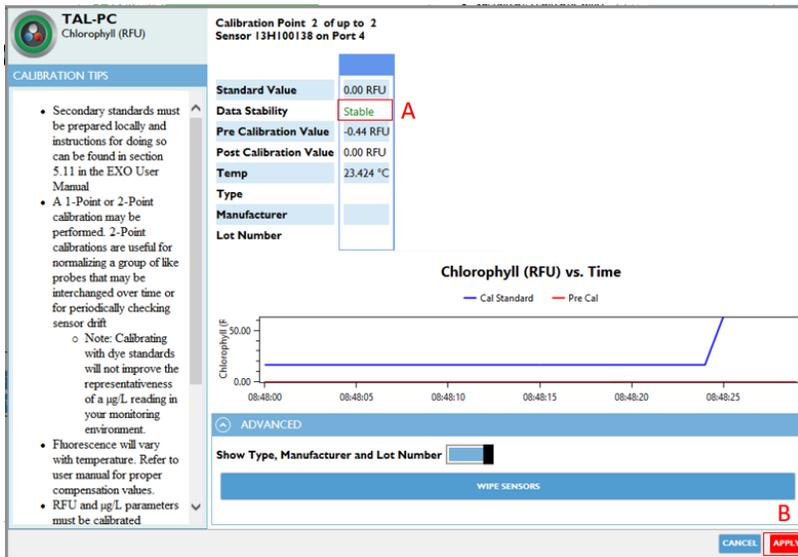

Figure 97. Enter values in software.
**STEP 3 |** In the **Device Calibration** window, input the following information for a 2-point calibration process (A in **Figure 97**):
**STEP 4 |** When the window displays Stable Data in green (A in **Figure 97**), select the option to “**Apply**” (B in **Figure 97**)